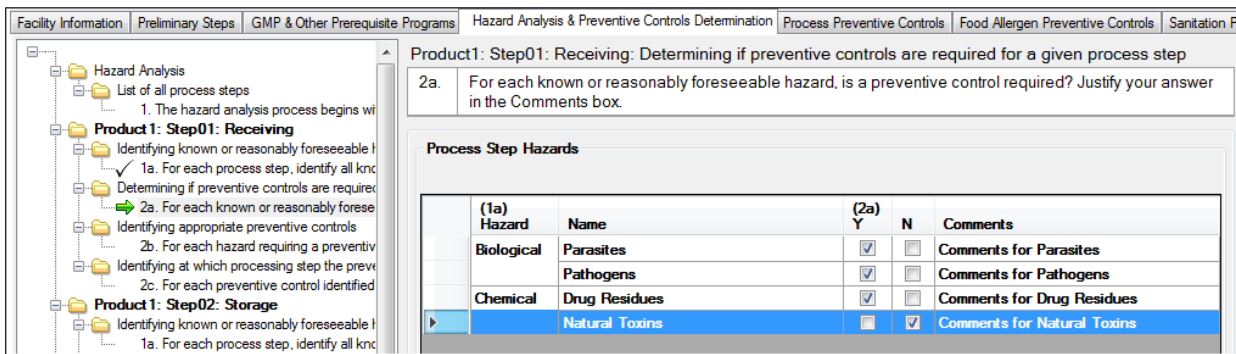

Figure 45: Question 2a
- To edit comments for a Preventive Control (Figure 45), select the "Comments" text field for that particular Preventive Control and update comments as needed.